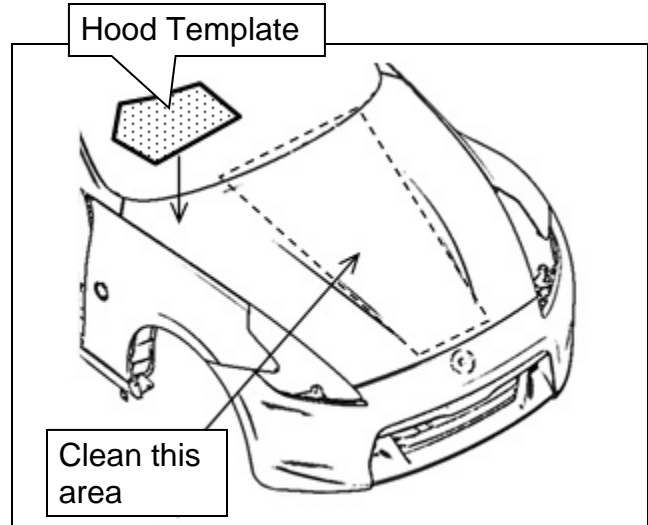

Figure 2
1. Wash the area that the hood accent stripe will be applied with isopropyl alcohol (Figure 2).
- a. Place on the right rear corner of the hood (Figure 2).